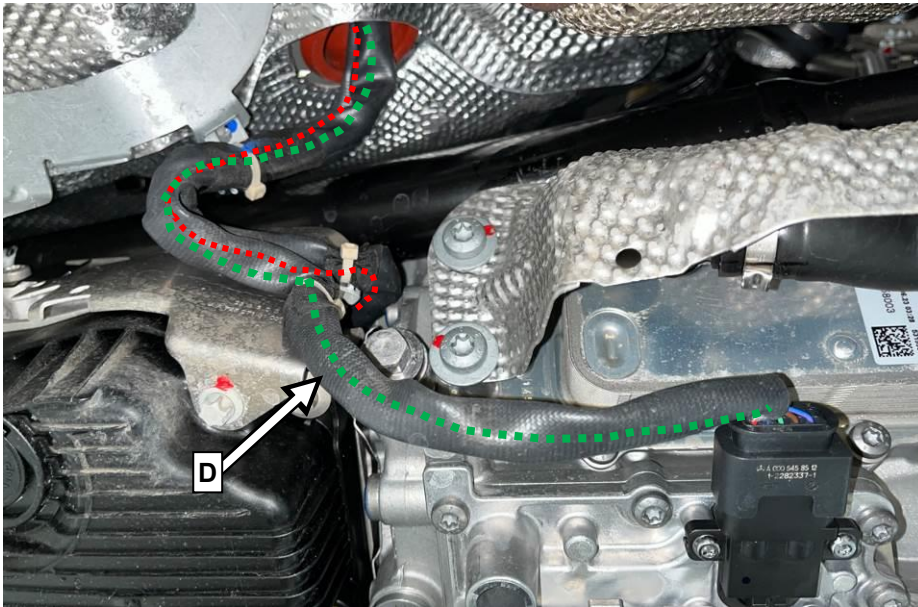

Figure 6
2. Route electrical wiring harness (**Figure 6, D**) correctly as shown.
- i** The electrical wiring harness (**Figure 6, D**) must not be in contact with indicated parts ***in any location!***
i One or more of the electrical signal lines (**line cross section 0.35 mm² to 0.75 mm²**) in the electrical wiring harness (**Figure 6, D**) shows signs of damage.
1. Repair the affected electric signal line (**line cross-section 0.35 mm² to 0.75 mm²**) in the electrical wiring harness (**Figure 6, D**) using a line connector.
2. Route electrical wiring harness (**Figure 6, D**) correctly, as shown.
- i** The electrical wiring harness (**Figure 6, D**) must not make contact ***at any point!***